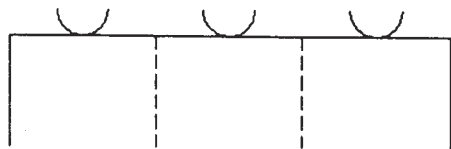

Fig. 10
- NOTE: Tear points can be moved to allow operator to position them at any location along tear bar. Tear points should be set between perforations that run vertically the length of the form. (Fig. 10)